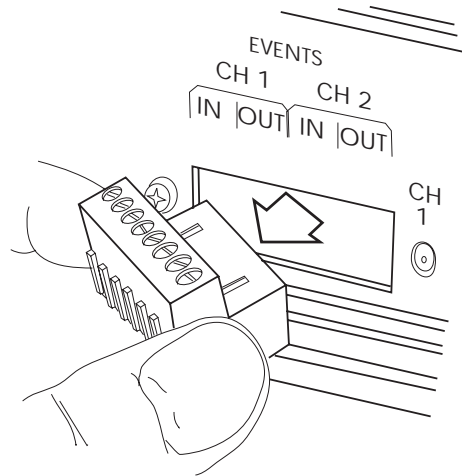

Figure 2-3 Removing the Terminal Strip
1. Remove the terminal strip from the Bus SAT/IN module (Figure 2-3).